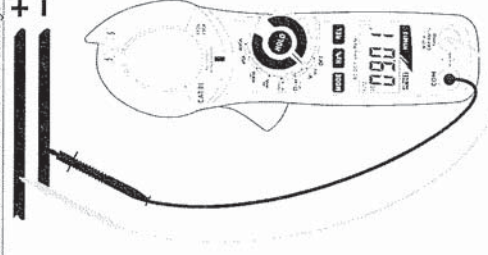

Fig. 2. Use of the clamp for DC voltage measurement
2. Insert the red cable into input terminal $V\Omega Hz\%$ and the black cable into input terminal COM (Fig. 2).